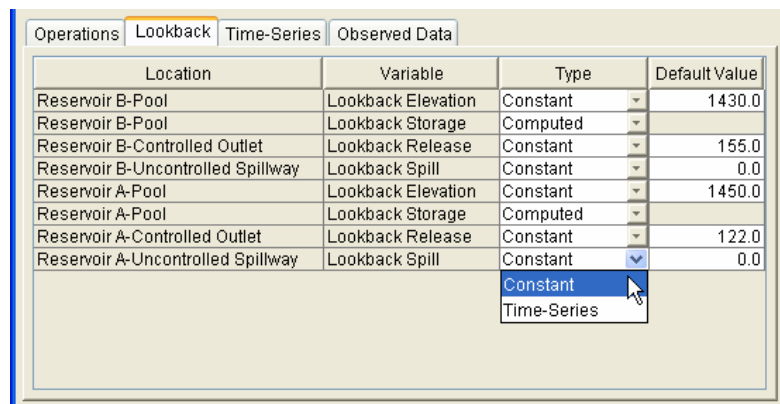

Figure 29 – Alternative Editor, Lookback Tab
- On the **Lookback** tab [Section 13.6], select the initial conditions **Type** (Times-Series or Constant) from the list for each Location listed, as shown in Figure 29. This is similar to selecting the operation set per reservoir. For **Variables** defined as Constants, enter a constant **Value** for the Elevation or Release.